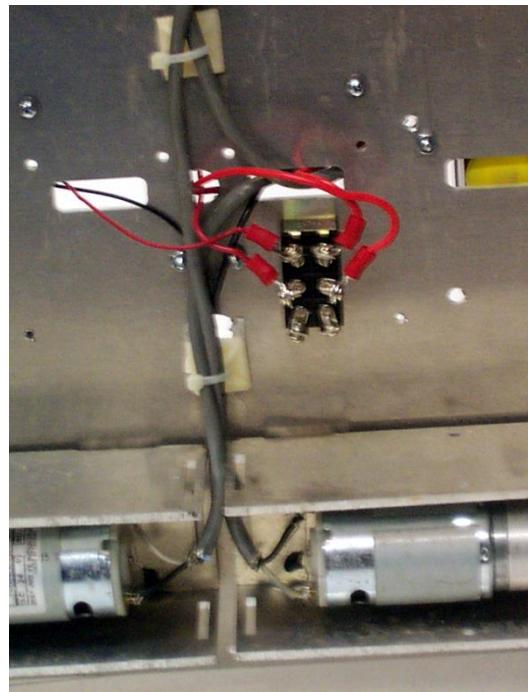
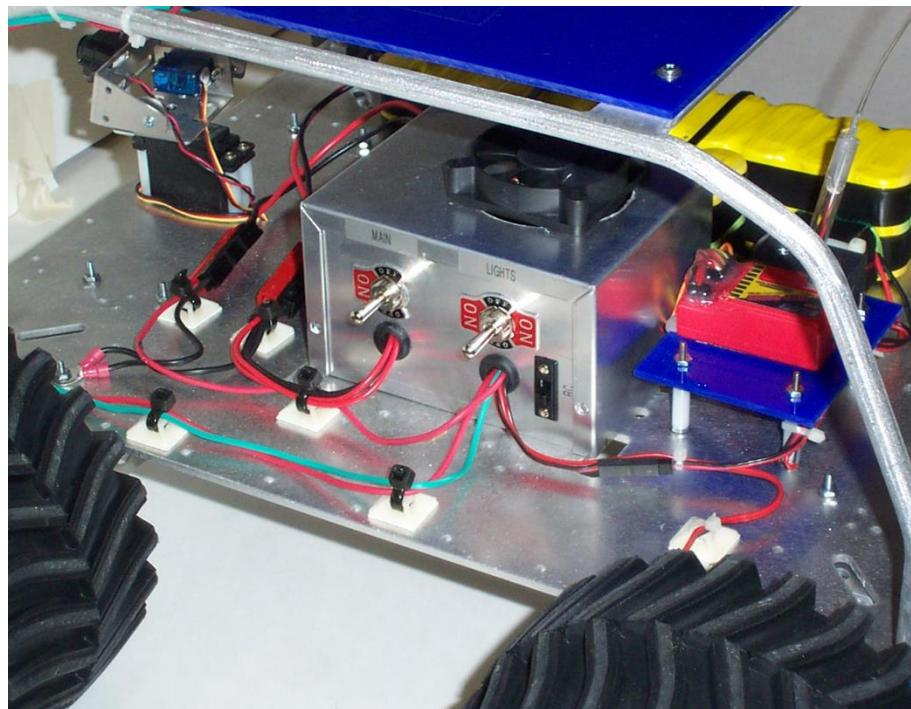
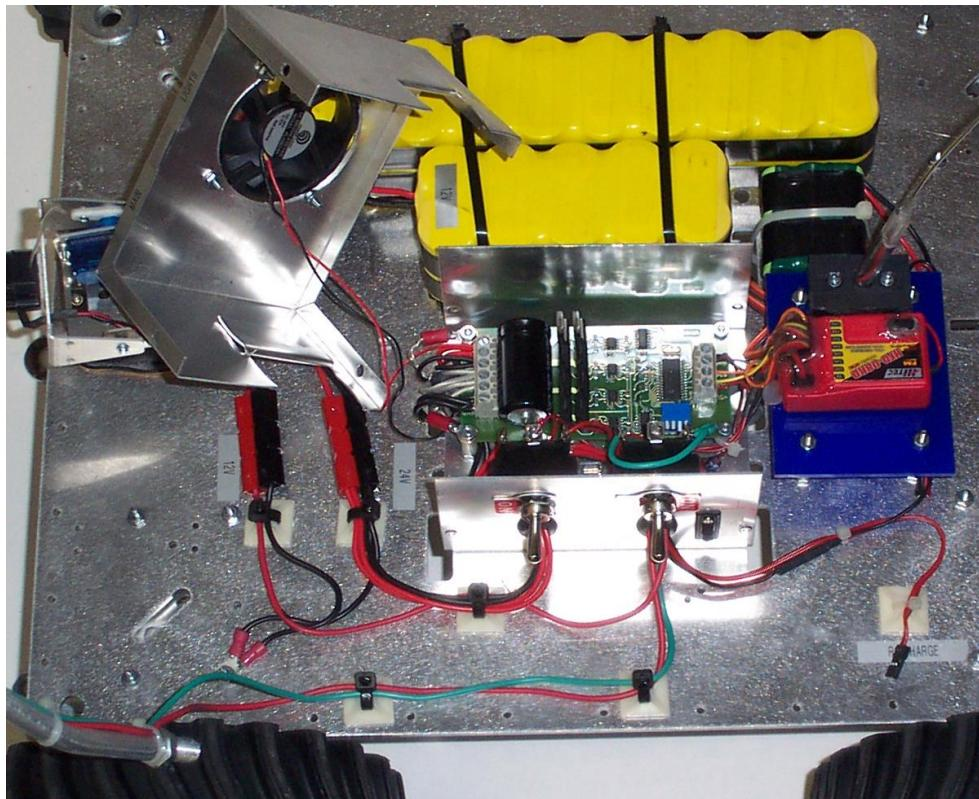

Figure 41: Power Switch and Motor Wire Routing
Figure 42: Electrical Power Hookup
Figure 43: Electrical Power Hookup
1. Mount the power switch. The power Switch can be put in the deck as shown in **Error! Reference source not found.** and Figure 41 or in the electrical housing as shown in Figure 42 Figure 43.
2. Use the crimp terminals to mount the wires to the switch as shown in Figure 41.